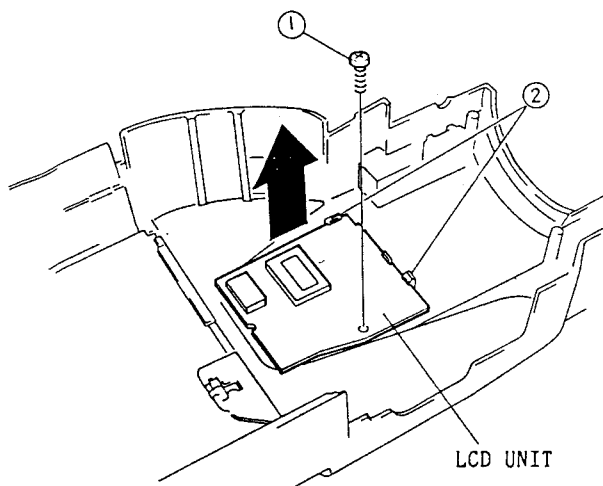

Fig. 2-14
1. Remove one (1) screw holding the LCD unit. (See Fig. 2-14)
2. Release two (2) tabs and remove the LCD unit in the direction of the arrow.